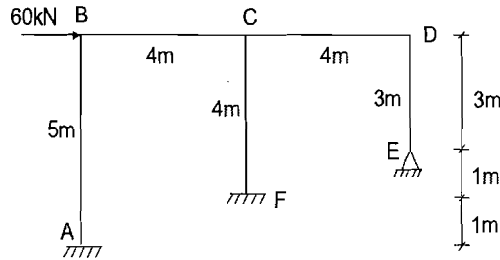

Fig. 3
3. Using moment distribution method, analyse the frame shown in fig.3 and draw BMD. 20